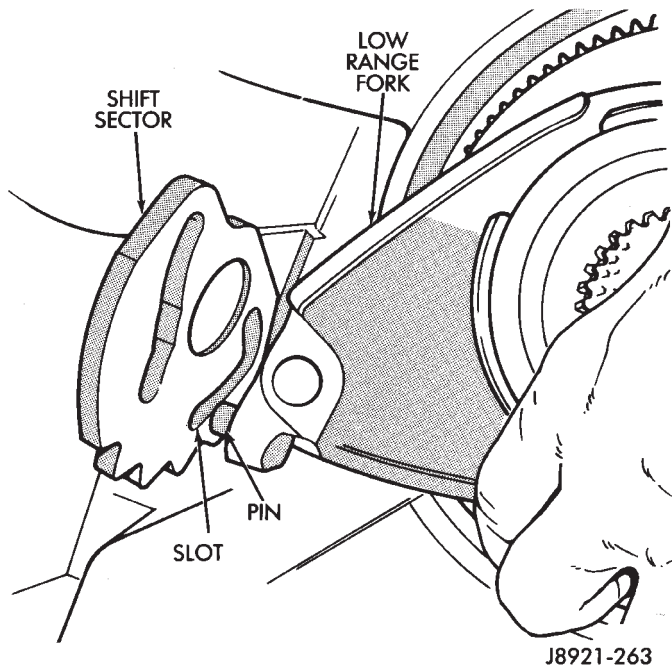

Fig. 23 Disengaging Low Range Fork
(35) Slide low range fork pin out of shift sector slot (Fig. 23)